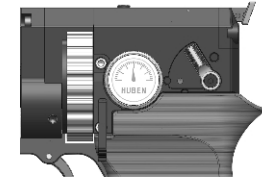

FIG.3
- ❖ Push the safety lever to the "OFF" position, the air pistol can be fired. (See FIG.3)